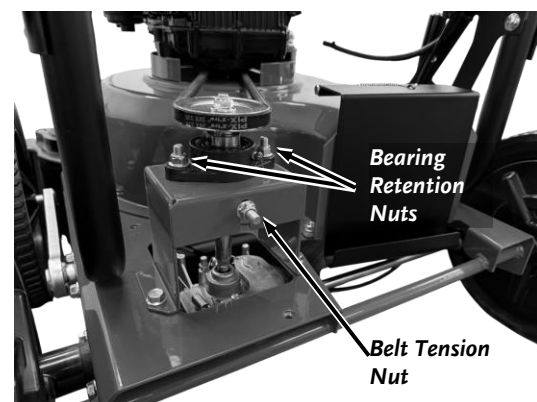

Figure 37
2. Use a 1/2" Wrench to loosen the Bearing Retention Nuts by 1/2 turn (**Figure 37**).